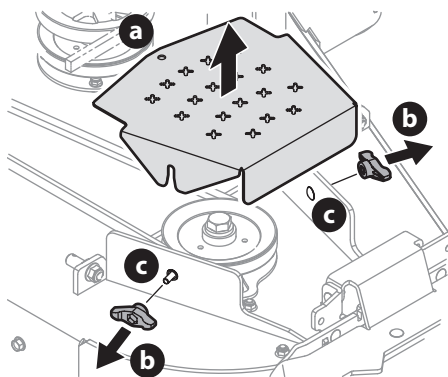

Fig. 39
3. To remove the belt covers (a), remove the wing knobs (b) from the carriage screws (c) securing it to the deck (Fig. 39).